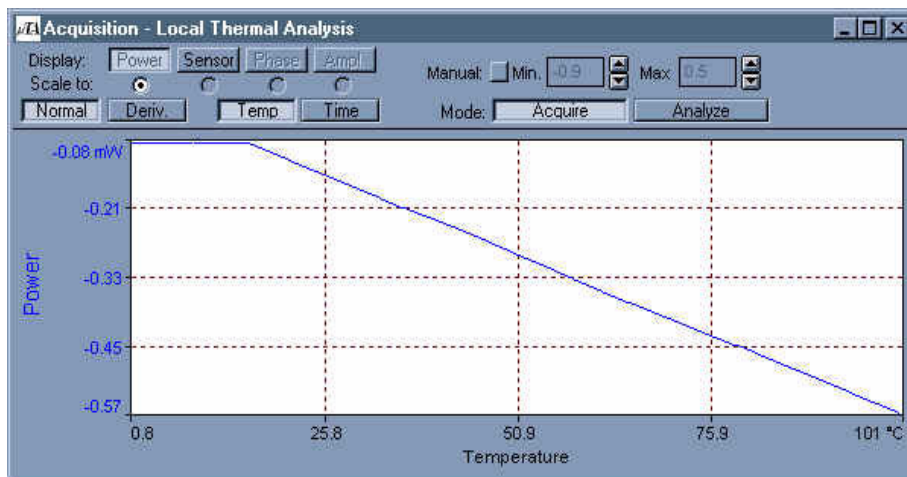

Figure 4.10
8. Repeat steps 1 through 7 until the desired result (Figure 4.10) is obtained.
Figure 4.10 below shows the result with a value of 1200 for the **Hysteresis Offset**. Here the heat-up curve is seen with little or no curvature. **This is the desired result**—the probe turns on without a discontinuity.